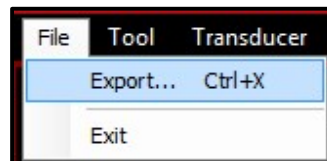

Figure 5.5-1: Export Button
1. In the "File" menu select "Export..." (Figure 5.5-1).